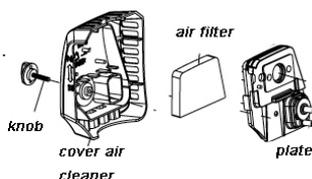

Fig. 6
2. Remove the air filter by pulling the air filter cover out (fig. 6).